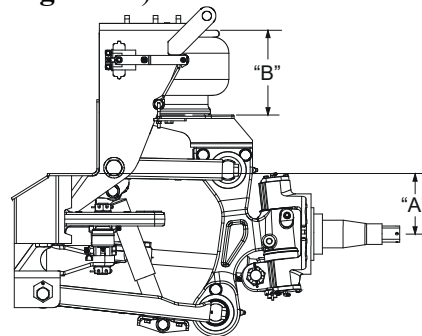

Figure 11
The ride height of the front suspension is the distance from the bottom of the chassis frame rail to the center of the wheel spindle. An alternate measurement may be taken as the height of the air spring (See Figure 11).
4. Measure either the wheel center to bottom of frame (“A”) or air spring height (“B”). If the dimensions are not within $\pm 1/8$ ” of measurements in **Figure 11**, adjust as follows.